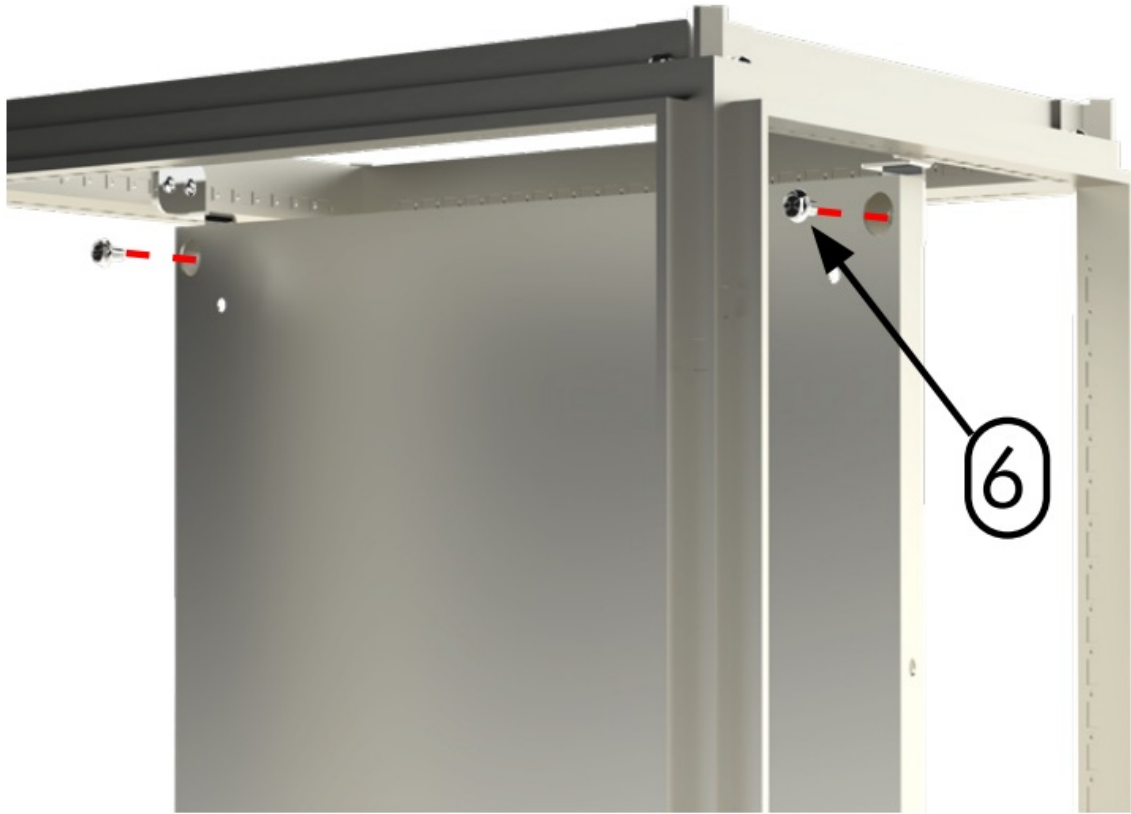

Figure 3
- Secure the subpanel using two M8 hex screws (Item 5) through the front circular cutouts into the flanged cage nuts (Item 6). See Figure 3 for details.
Insert the M8 hex screw through the circular subpanel cutout. Fasten the screw to the flanged cage nut attached to the subpanel bracket (Figure 3).